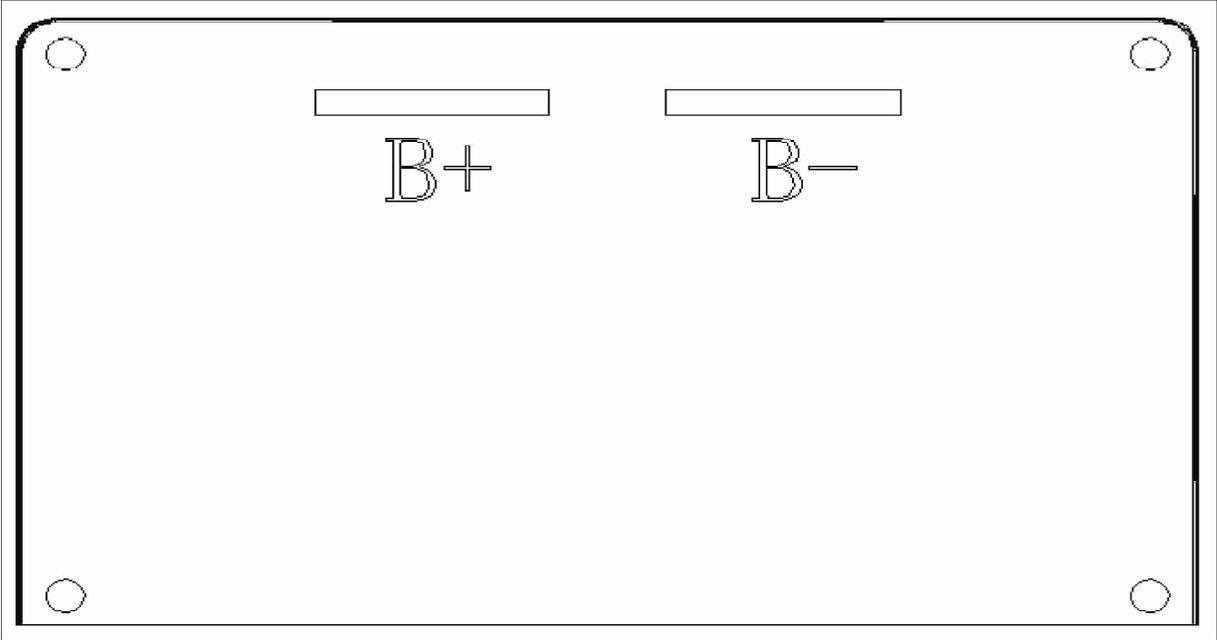
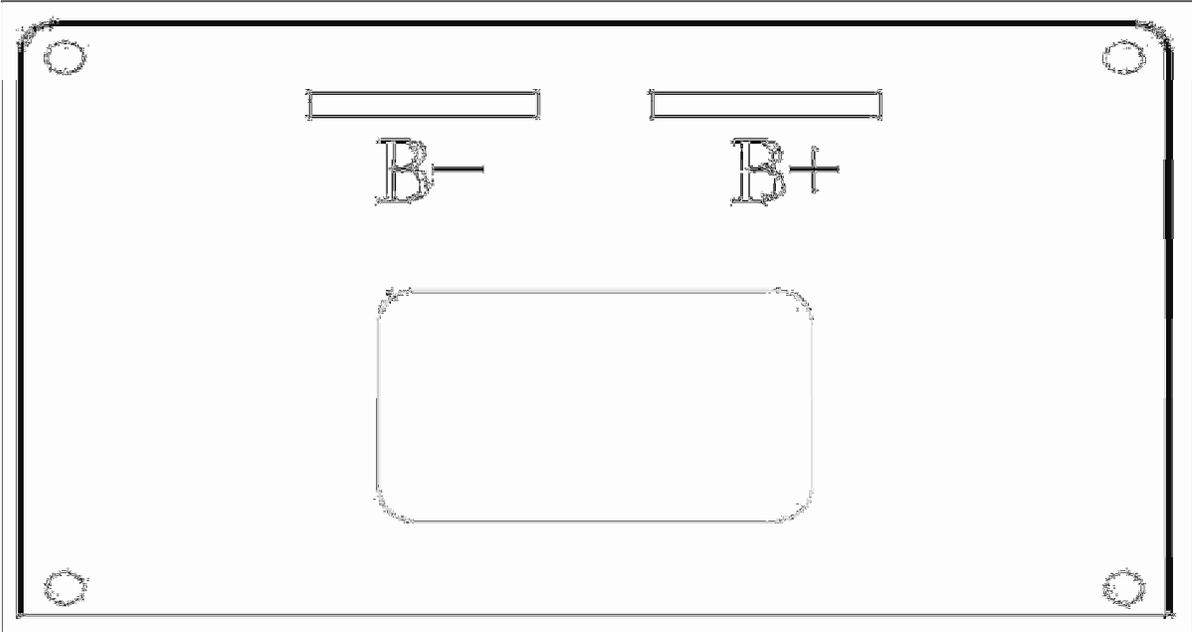

Figure 15: Back Panel of Capacitor
Figure 14: Front Panel of Capacitor
3.4.1 Front Panel and back panel of Capacitor: Two metal bars in front panel and two in back panel are provided for connecting to the battery and HP BLDC controller shown as Figure 14 and Figure 15.